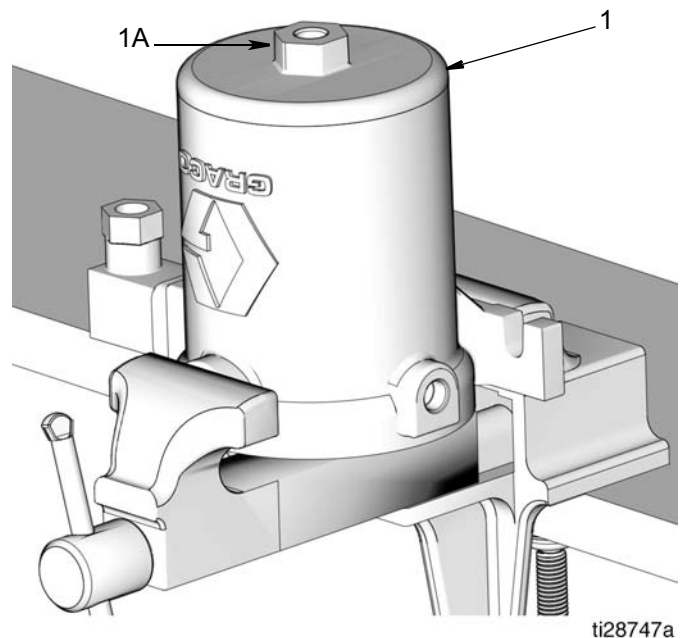

FIG. 20
16. Examine the piston assembly (33) for scratches and other wear and damage. If damaged, replace the pump piston assembly (33).
17. Reposition air motor cylinder in vise to access the bottom of air motor cylinder (FIG. 20).
18. Secure a wrench on the cover nut (1a). Turn it counter-clockwise loosen and remove the cover (1) from bottom of air motor cylinder. (FIG. 20).